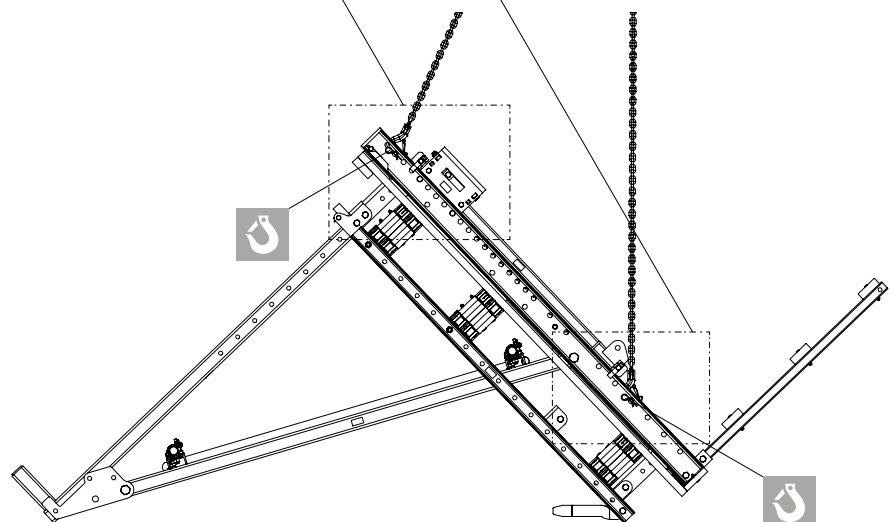

Fig. B1.18
3. Attach crane lifting gear to the fitting pins. (Fig. B1.18)